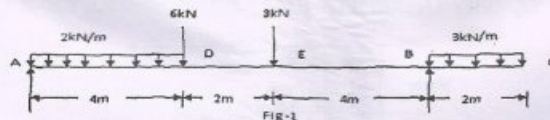

Fig 4.
- (b) Draw the shear force and bending moment diagrams for the beam shown in Figure 4, indicating principal values. (13)